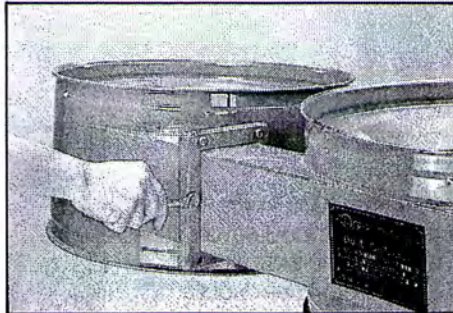

FIG. 6
WITH THE PACKING (I) MOUNT THE OUTLET TO THE COLLECTOR AND COLLECTOR ASSEMBLY USING SIX  $1/4" \times 1/2"$  HEX FLANGE HEAD SCREWS. TIGHTEN ALL FASTENERS SECURELY. FIG. 6